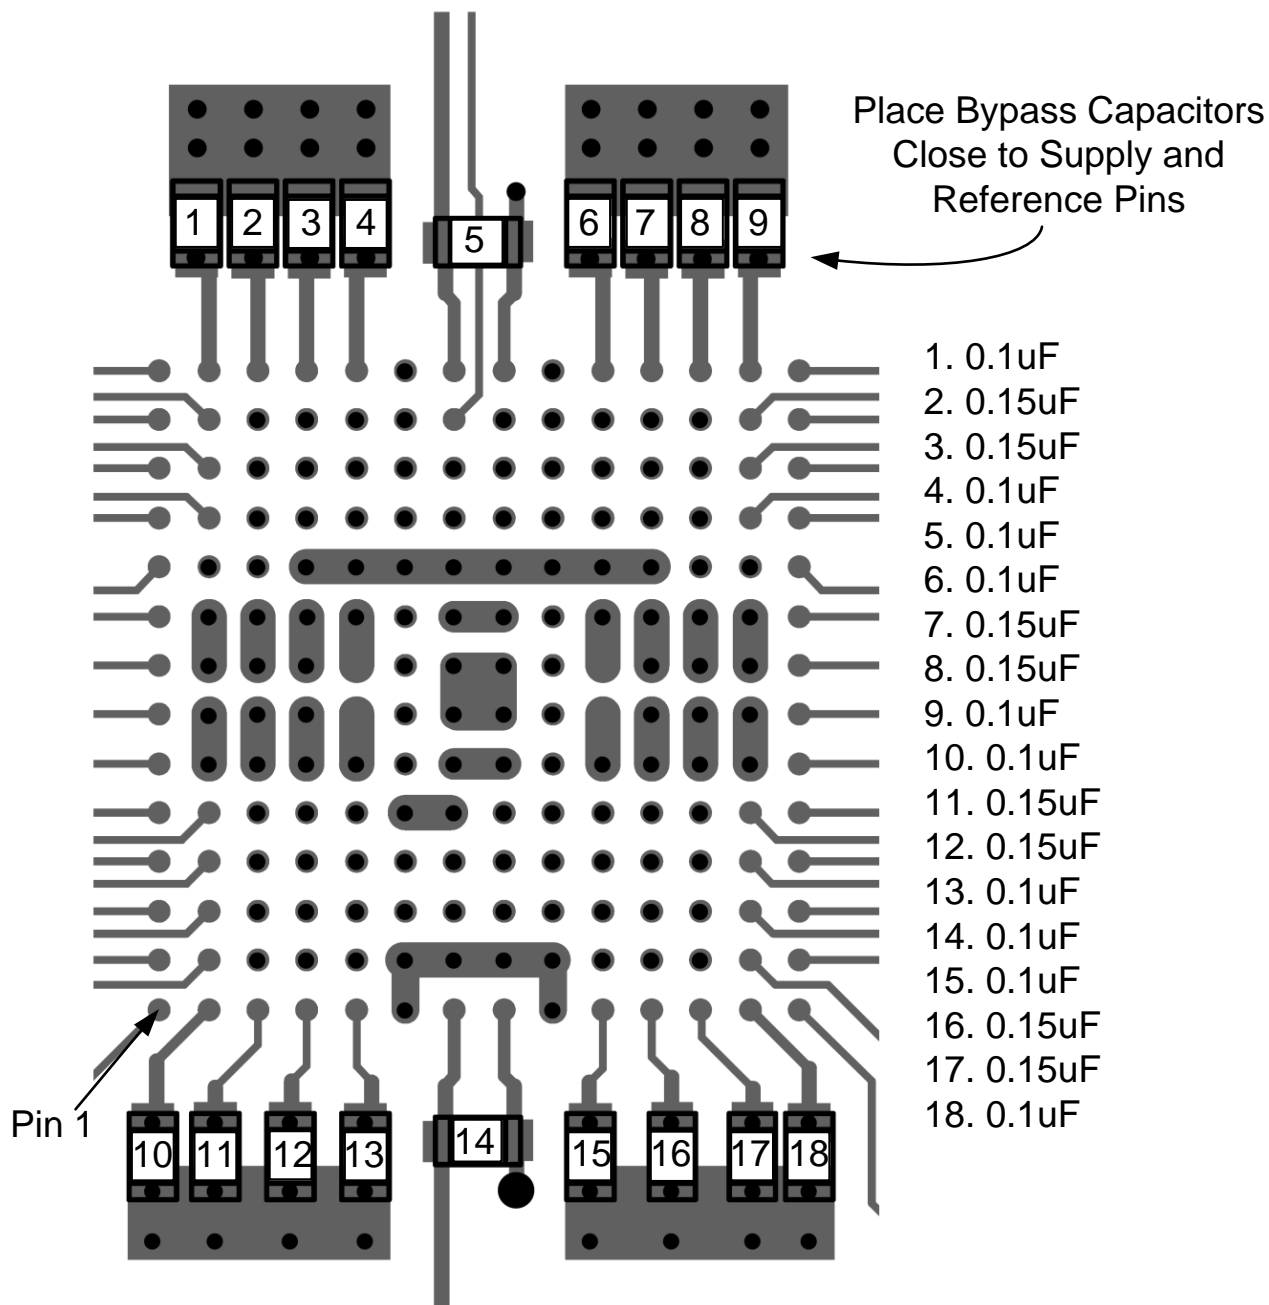
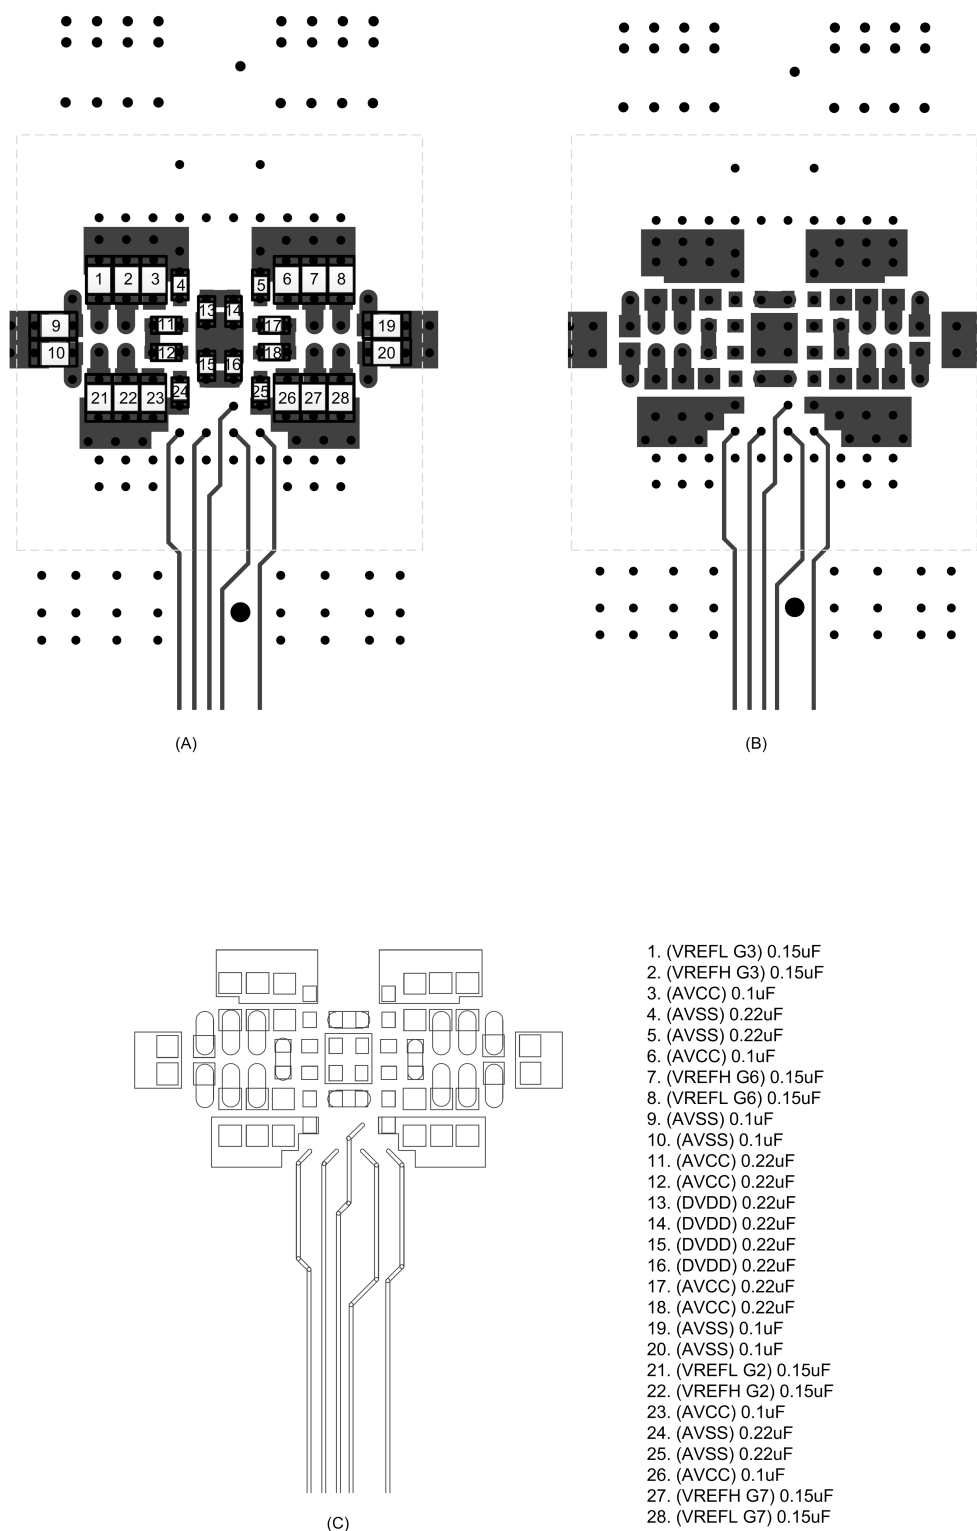

Figure 56. DAC60096 Example Board Layout – Top Layer PCB
Figure 59. DAC60096 Example Board Layout – Bottom Layer PCB.
- Place power supplies and VREFH/L bypass capacitors close to pins to minimize inductance and optimize performance. Inner supply and reference pads can connect to the bypass arrangement on the bottom layer of the PCB through vias to minimize trace length. This is illustrated in Figure 56 and Figure 59.
Optimal layout requires the addition of blind vias. This layout reduces trace length and brings the bypass capacitor arrangements closer to the device pads. Figure 56 to Figure 59 show the board layouts.